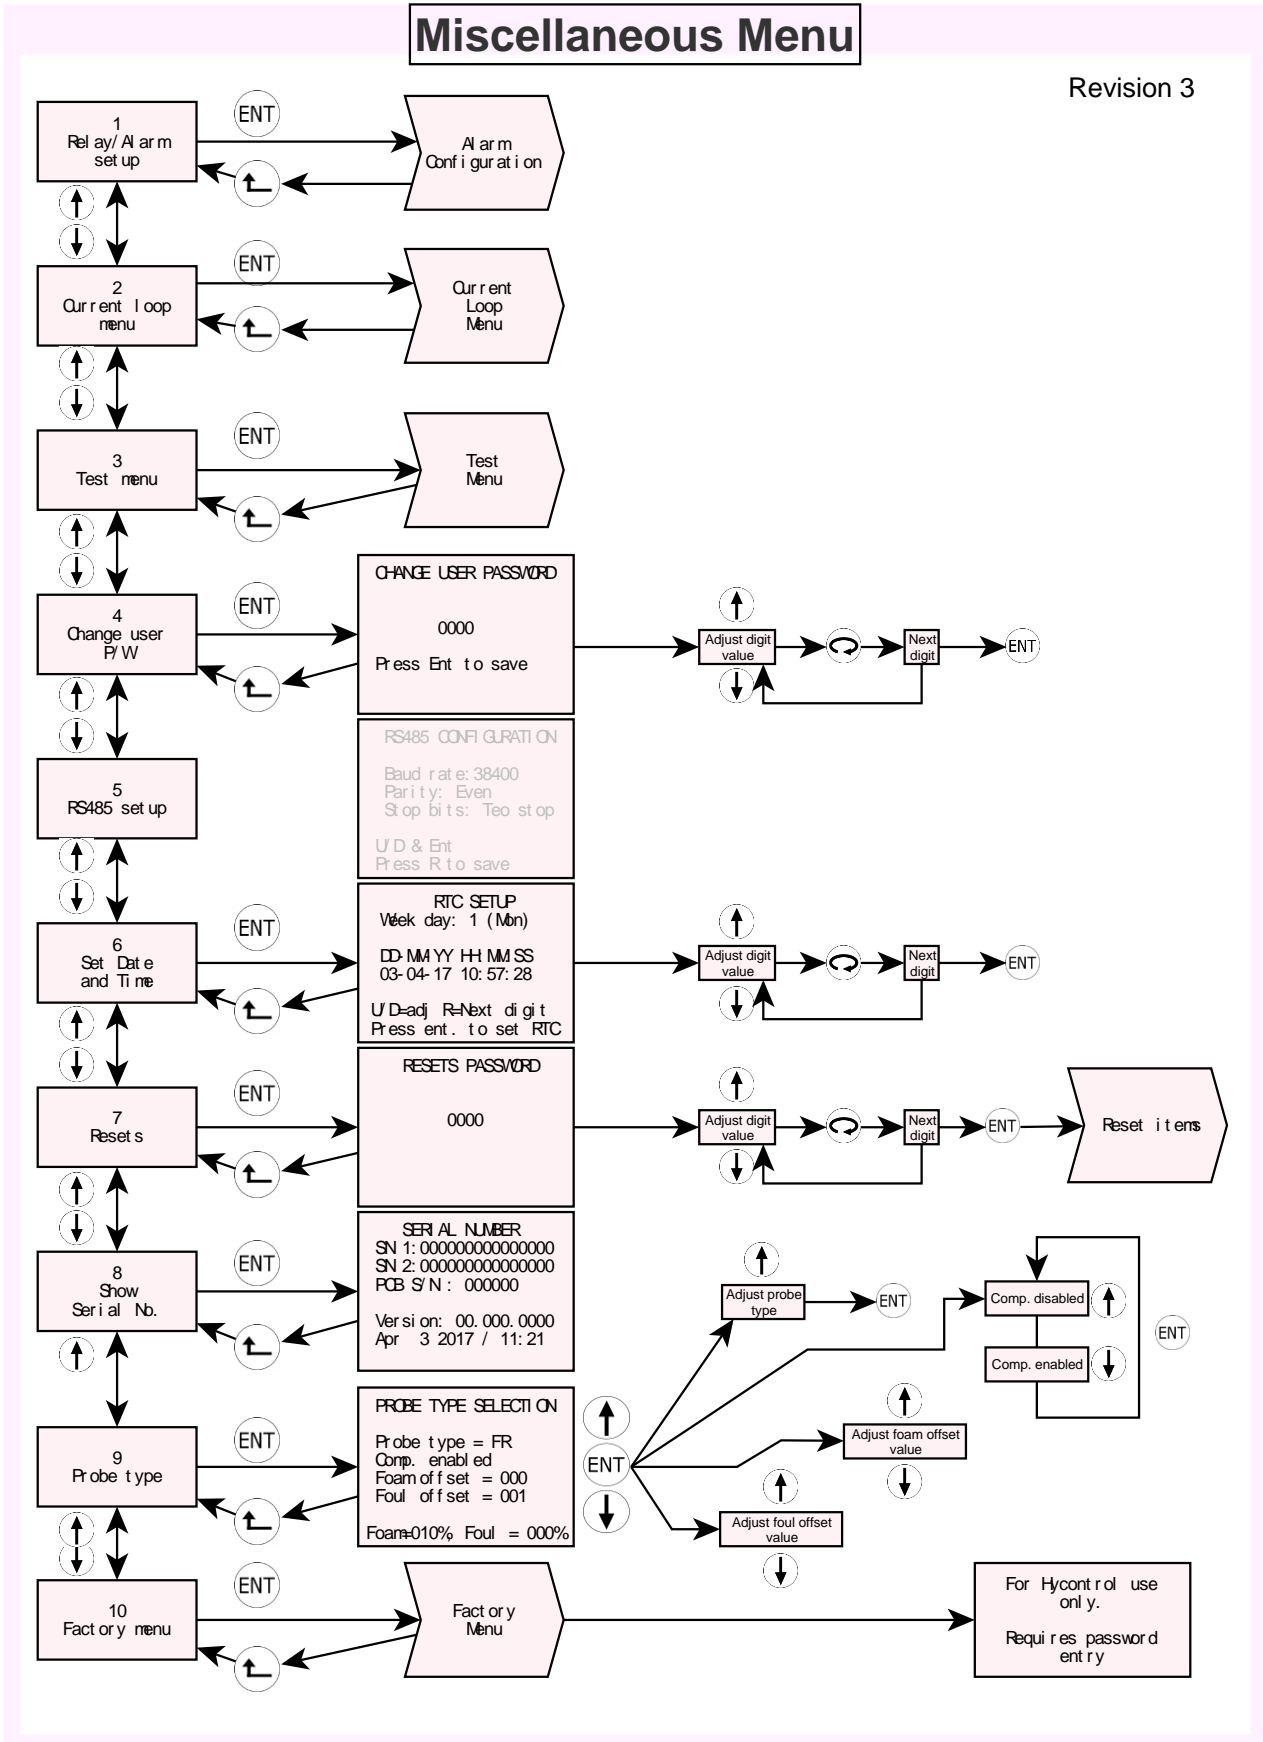

Figure 31 : Miscellaneous menu layout
- Ensure probe type is set correctly in controller see Figure 31 : Miscellaneous menu layout on page 59.